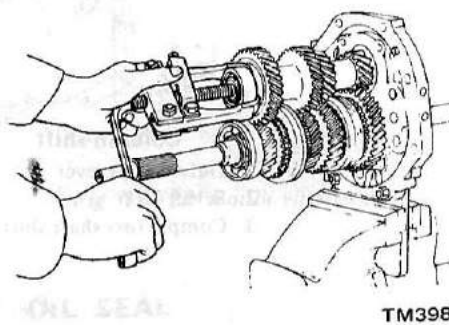

Fig. TM-13 Removing countershaft front bearing
1. With gears doubly engaged, draw out countershaft front bearing using a suitable gear puller. See Figure TM-13.